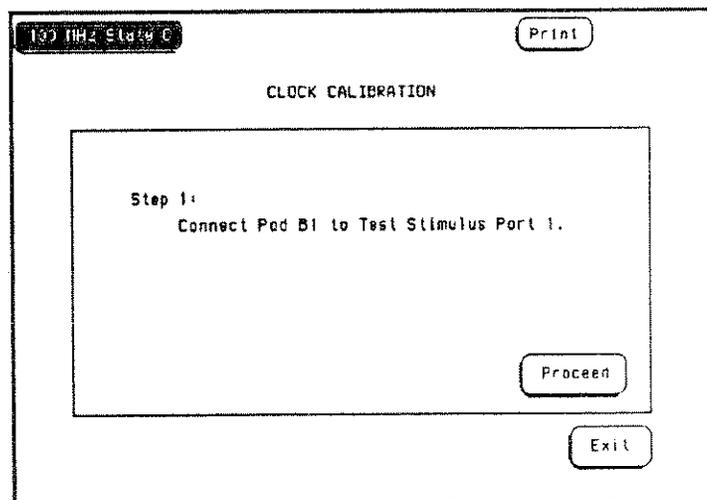

Figure B-11. Expander Clocking Calibration Step 1
8. Follow the step-by-step instructions on the screen to connect the pods of the expansion cards to the test stimulus ports. Step 1 is shown in figure B-11.